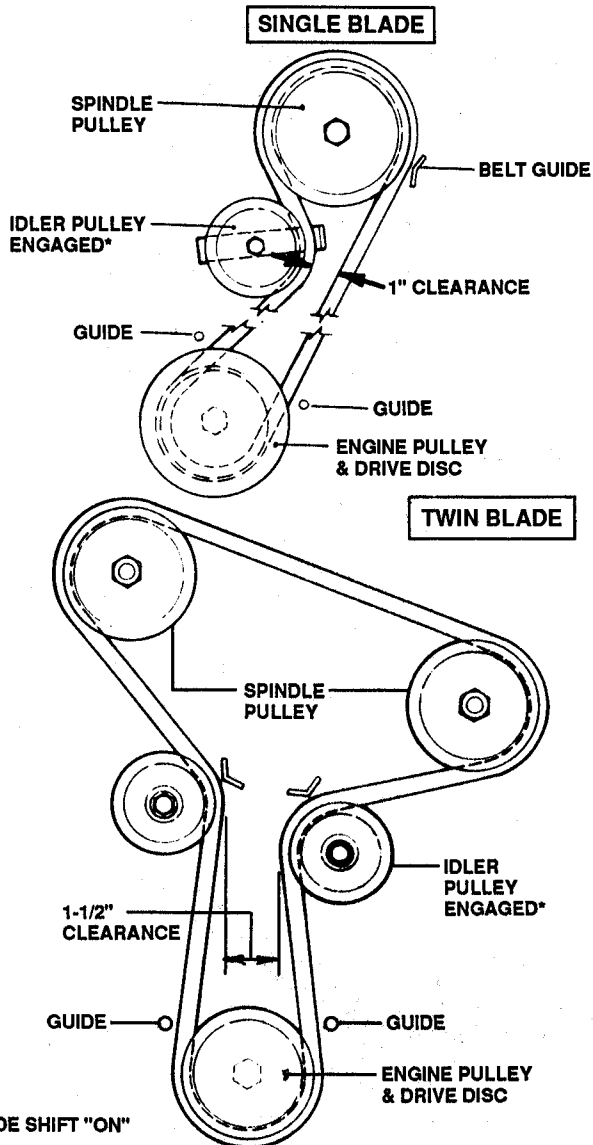

FIGURE 3.2
- Measure distance between inside span of belt at closest edge of idler pulley. Proper tension should be 1" clearance for single blade or 1 1/2" for two blade. See Figure 3.2.